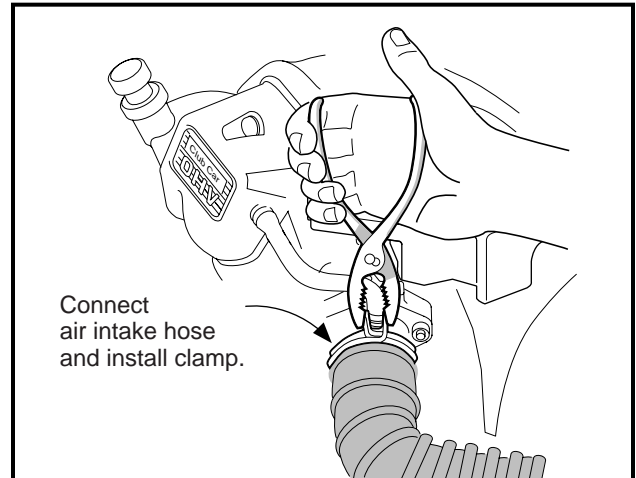

Figure 16-102 Air Intake Hose
27. Connect air intake hose to carburetor and secure hose clamp (**Figure 16-102, Page 16-39**).